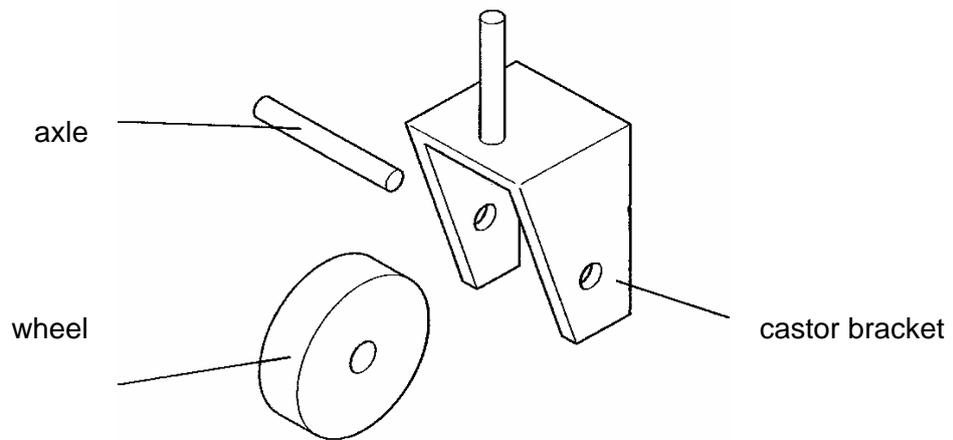

Fig. 5
- (d) Fig. 5 shows the component parts of one of the castors for the trolley. All of the components are made from mild steel.